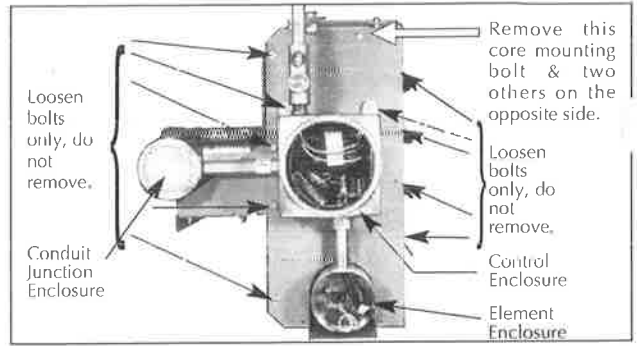

FIGURE 9
2. Disconnect all wires entering element enclosure (see Figure 9).
3. Slightly loosen all cabinet bolts shown in Figure 9, to prevent the core from binding.